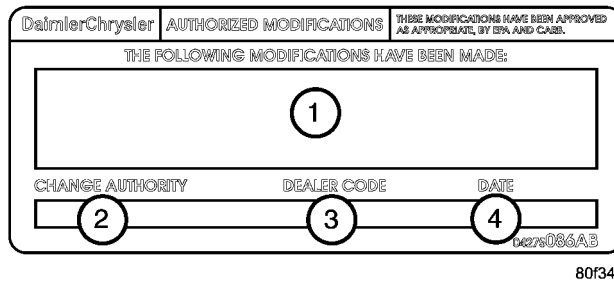

FIGURE 1 - AUTHORIZED MODIFICATION LABEL
13. Type the necessary information on the "Authorized Modification Label" p/n 04275086AB and attach near the VECI label (Figure 1).